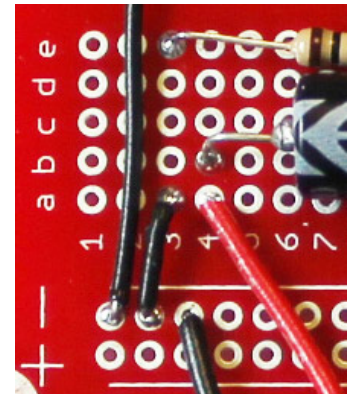

Figure 21
21. Prepare a 4 inch long stranded black wire (22 AWG) and strip one end. Solder the wire to hole 3rd from left on bottom negative power bus (see Figure 21).